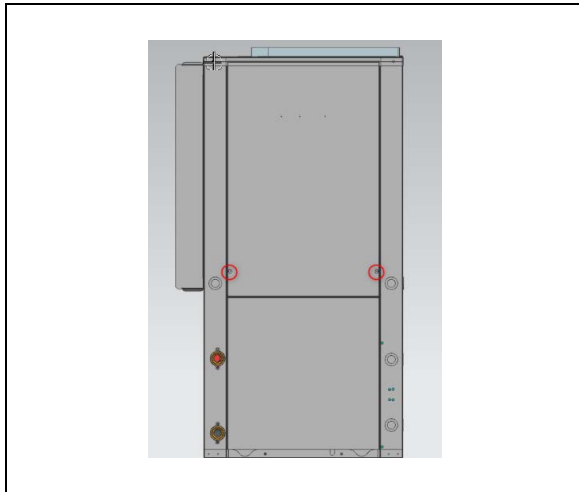

Fig. 1a Blower Access Panel for Vertical unit configuration
**Step 2.** Remove blower access panel to locate the Blower Motor Module to be replaced. (See Fig. 1a & 1b)